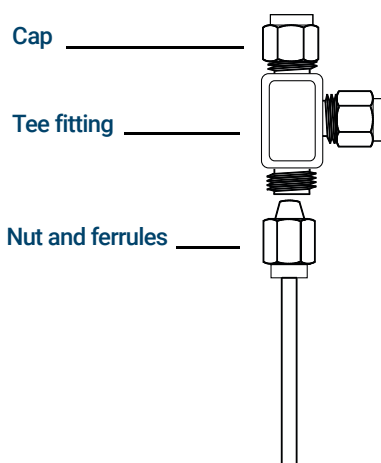

Figure 30. Swagelok tee
- 1 Cut the tubing where you want to install the Tee. Connect the tubing and Tee with a Swagelok fitting. See Figure 30.